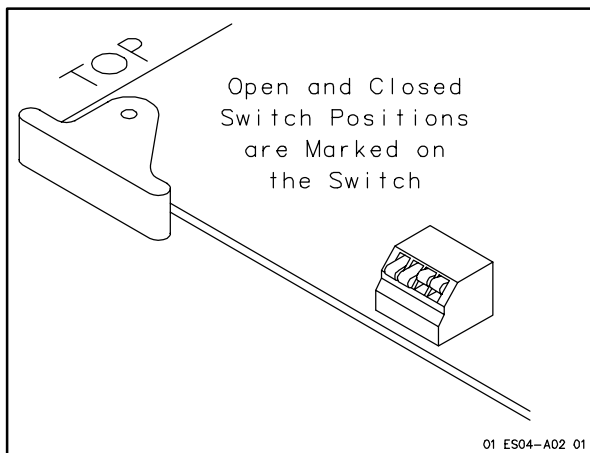
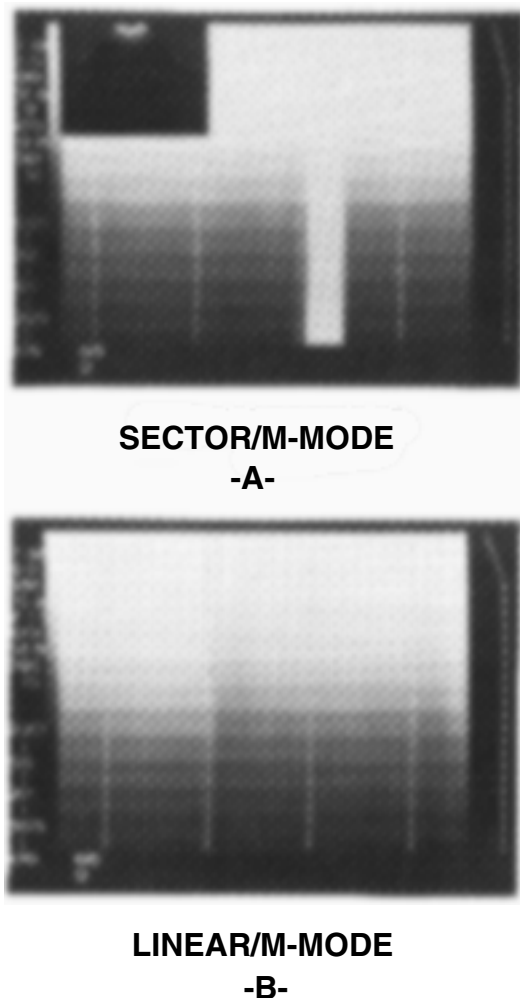

Figure 4-2. PCB Test Switches
Figure 4-5. TM-mode Test One
4-5 Test Switches (Figure 4-2)
Several PCBs in the card cage contain switches that are intended for use either in testing or system configuration or both (Figure 4-2). Switches on the TM-mode PCB, the TM Combo PCB and the Display Controller PCB inject specific test patterns into the data path at known points. If all processing circuitry is operating correctly, the test patterns will be displayed on the system monitor as in Figure 4-5 through Figure 4-7, and Figure 4-10.
2. Verify that a horizontal gray scale pattern is displayed (**Figure 4-5**).